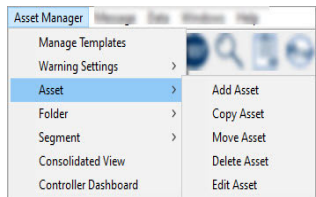

**Figure 3: Manage User Templates**
*Manage Templates*, opens the Manage User Templates window (Figure 3). This allows you to develop templates for specific kinds of assets. By assigning a unique template to an asset the test results, alarm, and caution values are more meaningful.